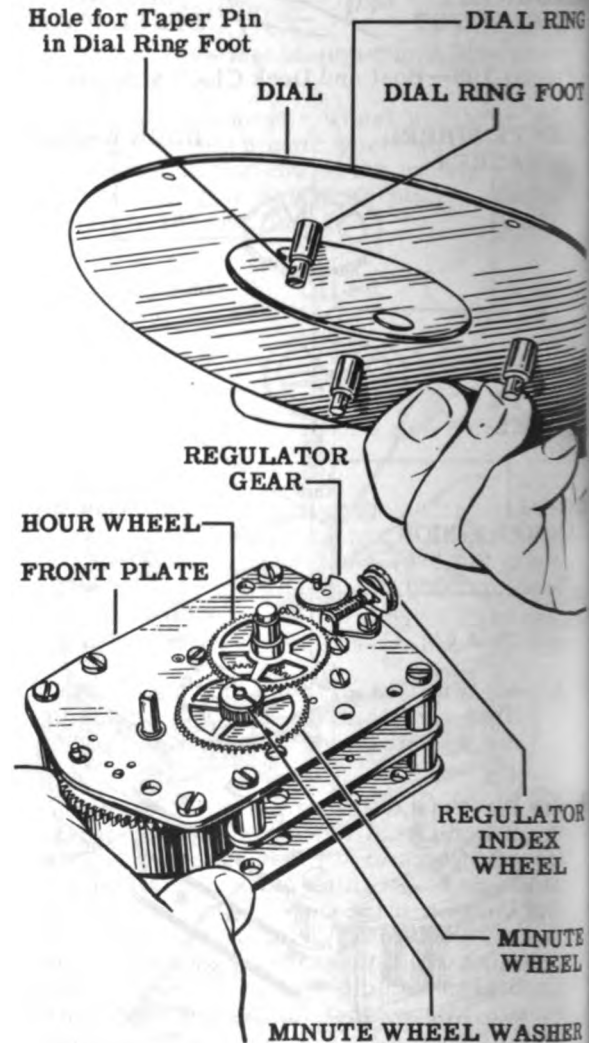

Figure 110—Mechanical Clock Movement
1. Place the dial in position with the dial feet projecting through the holes in the front plate. Put the dial foot taper pins through the holes in the dial feet behind the front plate. See Fig. 110. Push the taper pins into their holes with a pair of pliers so that the dial is firmly attached to the movement.